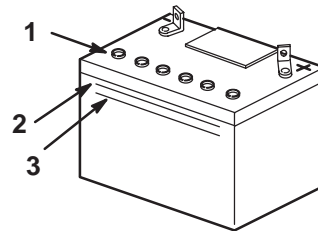

Figure 32
2. Look at the side of the battery. The electrolyte must be up to the Upper line (Fig. 32). Do not allow the electrolyte to fall below the Lower line (Fig. 32).
3. Remove the vent caps from the battery (Fig. 32).
- Slowly pour distilled water into each battery cell until the electrolyte level is up to the Upper line (Fig. 32) on the battery case.
- Wait five to ten minutes after filling the battery cells. Add distilled water, if necessary, until the electrolyte level is up to the Upper line (Fig. 32) on the battery case.